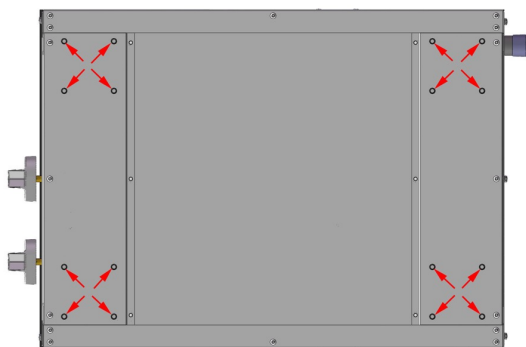

FIG 1
- 2 Turn chassis upside down and locate the leg plate to align the four screw holes ( Fig. 1)